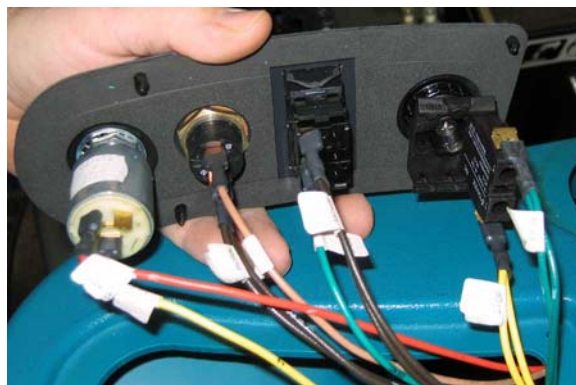

Fig. 7
6. Replace the key switch panel (Figure 7).